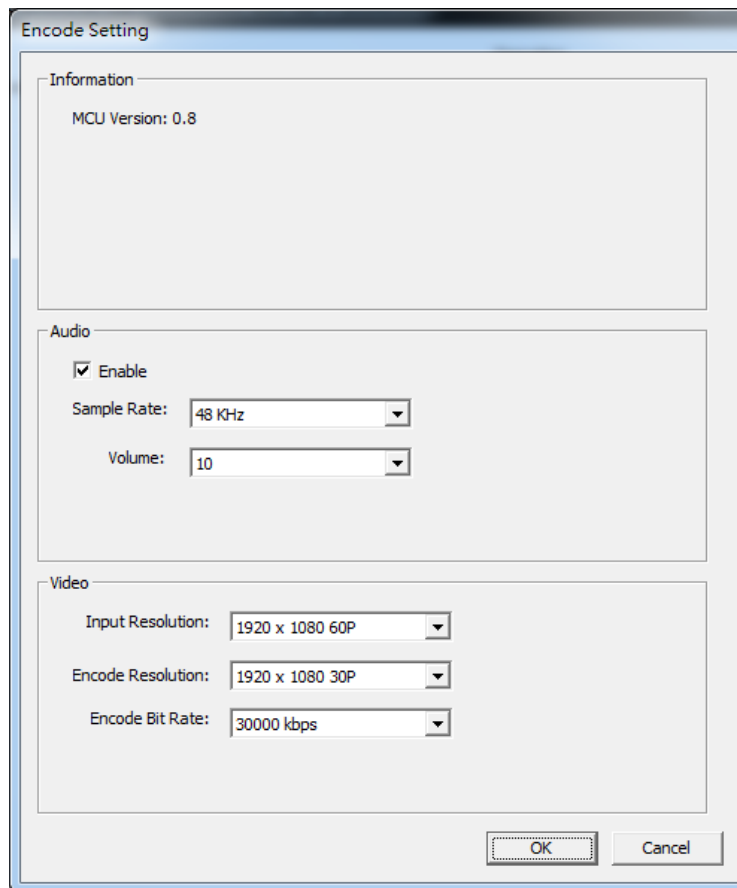

Figure 4-7: Encode Setting
Step 3: The Encode Setting window appears (**Figure 4-7**). Make necessary configuration setting by following the guideline below: